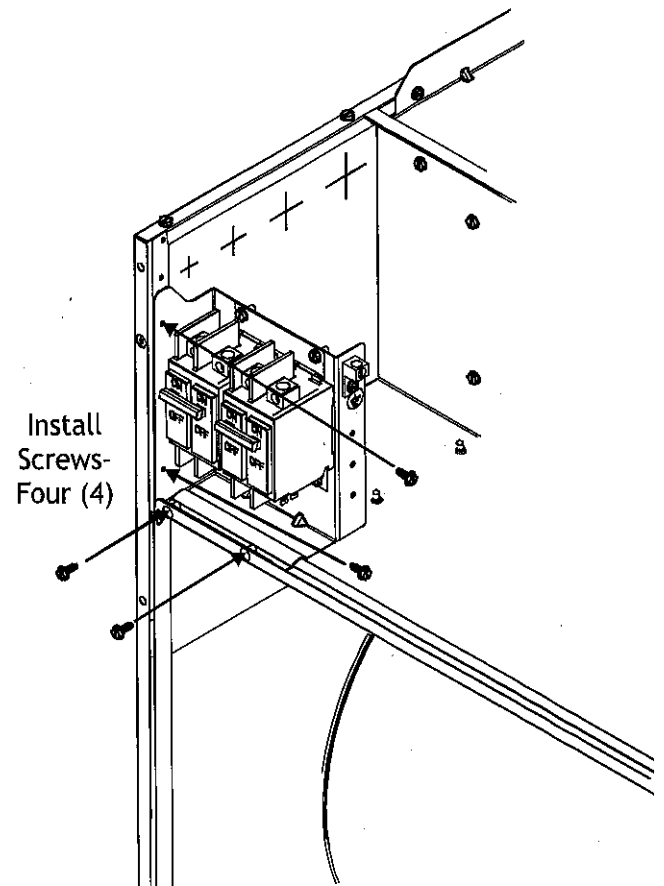

FIGURE 3
6. For all electric heat kits with circuit breakers, mount the circuit breaker mounting bracket as shown in Figure 3, using the supplied screws. Insert the four (4) screws as shown in Figure 3 (two through the control panel flange and two into the cabinet corner post).